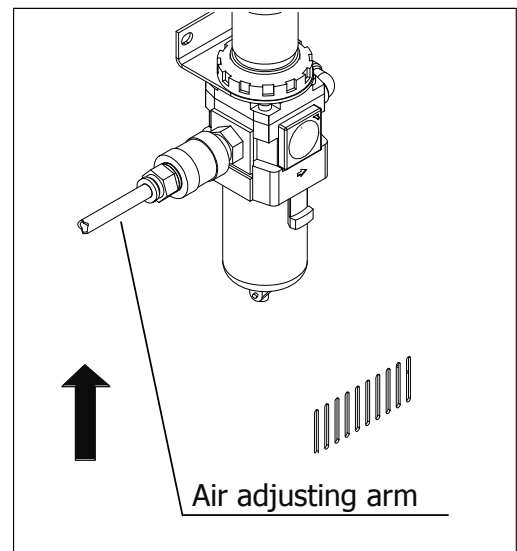

Figure.16
- c) Control that air adjusting arm of the machine is open. (Figure.16)
- a) Ensure that air adjusting arm of the machine is open. (Figure.16)